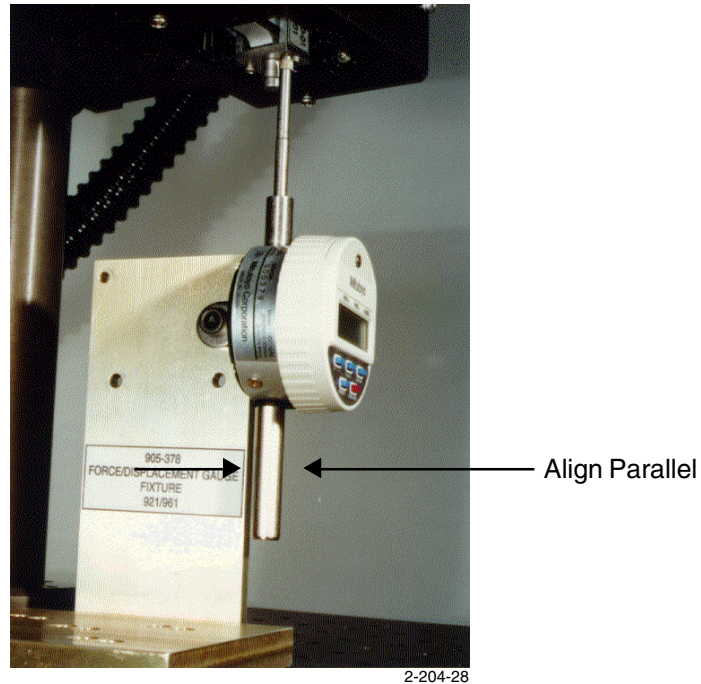

Figure D.1 Fixture with Gauge
- Step 4 Assemble the Displacement Gauge to Fixture PN 905-378, as shown in Figure D.1, using the bolt provided. Be certain the gauge is mounted with the plunger parallel to the side of the fixture (see Figure D.1). Install the assembled fixture with gauge on the 921A baseplate (optional) or equivalent, such that the displacement gauge plunger is slightly depressed